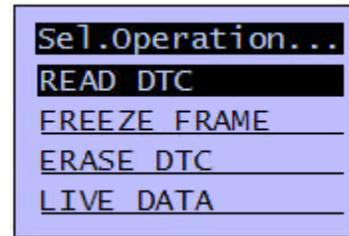
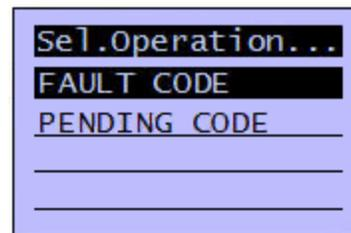
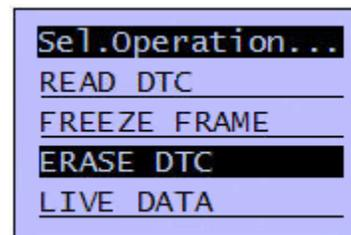
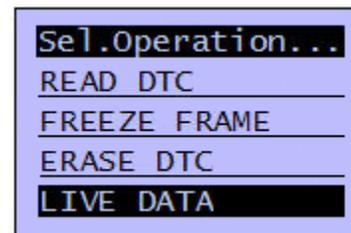

Figure 13
Figure 14
Figure 18
Figure 21
10. As instructed, press  to continue and it will enter into the main menu (Figure 13).
(Figure 13), pressing  key will proceed to the selection choice. (Figure 14).
To start this function, go back to the previous menu (Figure 13) and select "Erase DTC" as shown (Figure 18) by
To Exit this function, press  key will return back to the main menu screen (Figure 18).
To start this function, go back to the previous Menu (Figure 13) and select 'Live Data' row as shown (Figure 21).
To Exit this function, press  key will return back to the main menu screen (Figure 13).